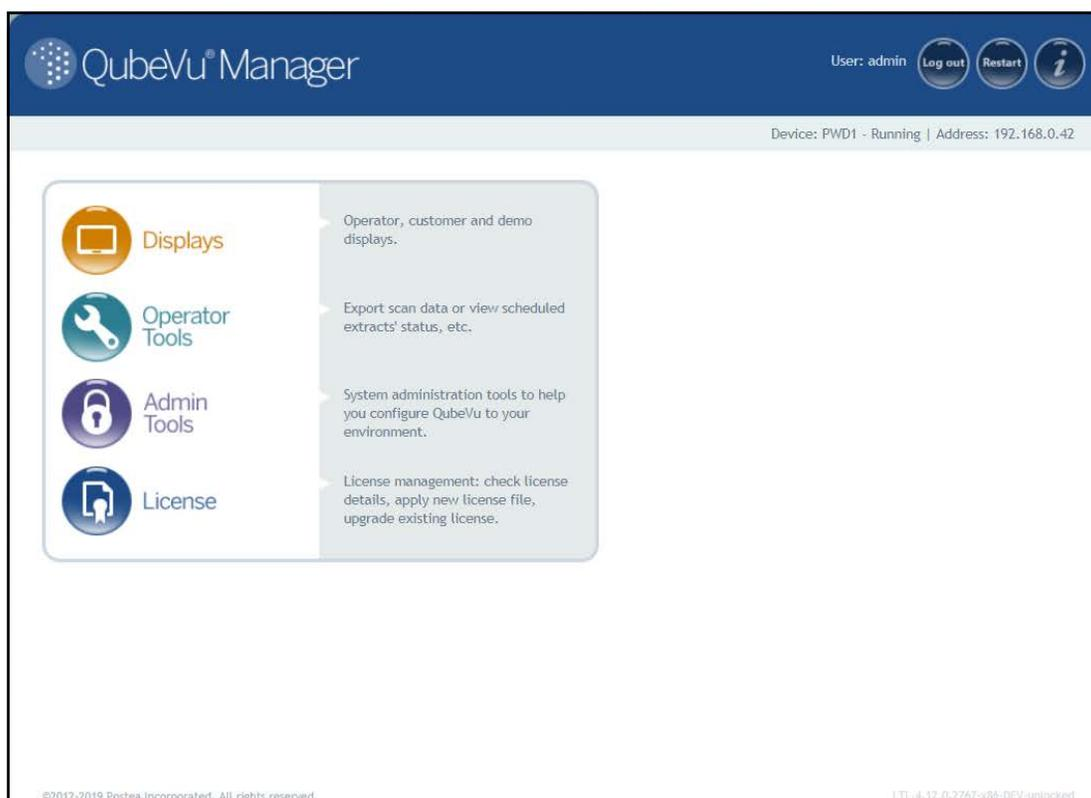
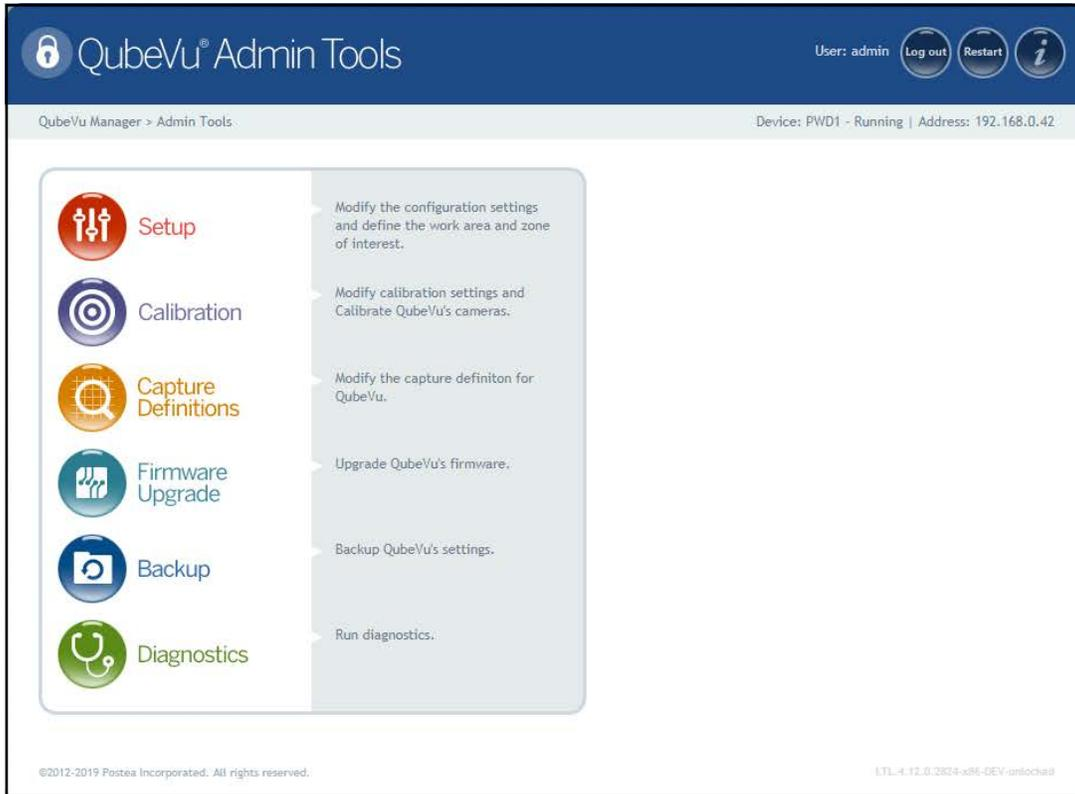

Figure 5-1. QubeVu Manager Home Page
Figure 5-2. Admin Tools Menu
3. Press  **Admin Tools** from the **QubeVu Manager** menu (Figure 5-1 on page 19) to enter the **Admin Tools** menu (Figure 5-2).
5. Press  Calibration from the **Admin Tools** menu (Figure 5-2 on page 20) to enter the **Calibration** menu.
1. Press  **Admin Tools** from the **QubeVu Manager** menu (Figure 5-1 on page 19) to enter the **Admin Tools** menu (Figure 5-2 on page 20).
3. Press  **Diagnostics** from the **Admin Tools** menu (Figure 5-2 on page 20) to enter the **Diagnostics** menu.